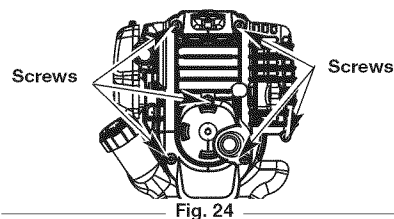

Fig. 24
1. Remove the six (6) screws on the back of the engine cover with a Flat-head or T-25 Torx screwdriver (Fig. 24).
4. Remove the engine cover (Fig. 24).
1. Stop the engine and allow it to cool. Remove the six (6) screws on the back of the engine cover with a Flat-head or T-25 Torx screwdriver (Fig. 24).